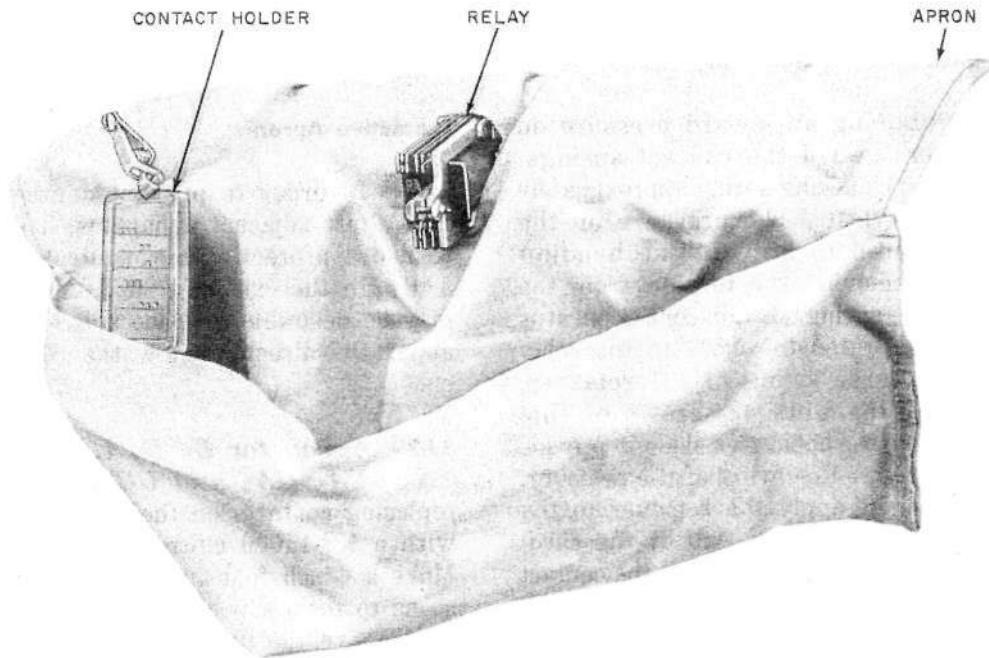

Fig. 1—Apron and Contact Holder in Working Position
- 3.07 *Apron for E-, F-, H-, M-, R-, T-, U-, Y-, EA-, UA-, and UB-Type Relays:* Before replacing contacts on these relays, make an apron with a KS-14666 cloth in the following manner. Make a 6-inch fold and stitch the sides of the fold so as to form a pocket the full width of the cloth. Just above the pocket at about the center of the apron, cut a hole which, after turning back the edges and hemming to prevent unravelling, will finish to a size of about 1-1/4 inches square, as shown in Fig. 1.
3.09 Place the apron over the apparatus on which the contacts are to be replaced as shown in Fig. 1, and adjust the apron so the contacts that are removed will fall into it. Clip the plastic holder on which the contacts are furnished to the apron or other convenient support adjacent to the apparatus being worked on. Fig. 1 shows the holder clipped to the apron.